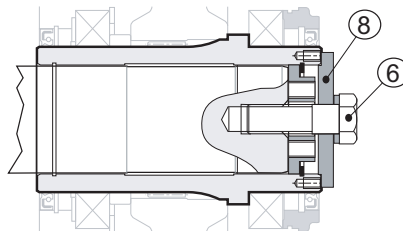

Fig. 16
unscrew the threaded rod (pos. 4) and take it out of its seat. Replace the rod (pos. 4) with screw (pos. 6), torquing it down fully to the torque value shown in the Table 4: Tightening torques (p. 19), using an intermediate threadlocker (see Fig. 16 (p. 26)).